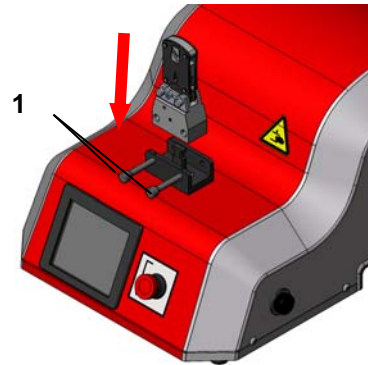

Fig. 10.01
- Pull out the pins **1** of the holding device (Fig. 10.01/10.02) until stop.
- Put the tool head or adapter on the machine from above (Fig. 10.01)
- Lock pins **1** of the holding device (Fig. 10.01/10.02) again.